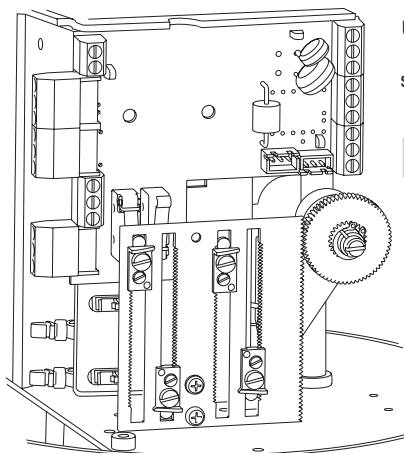

Fig. 18
- Remove the switching plate (Figures 18 and 19).